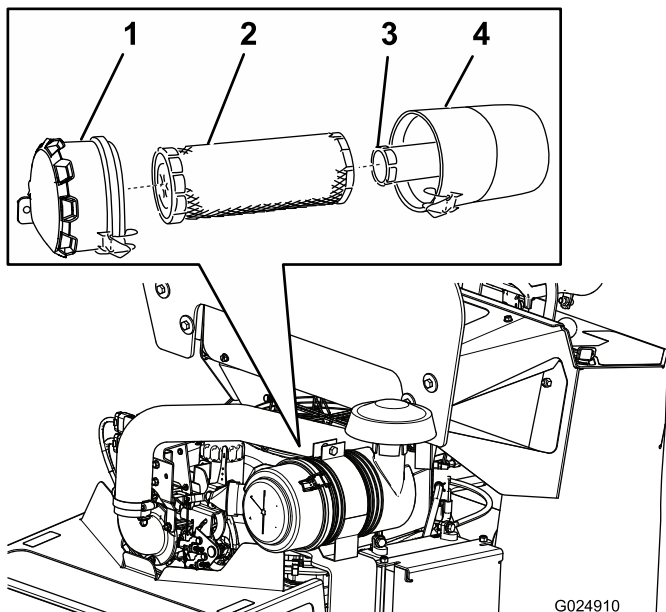

Figure 29
3. Release the latches on the air cleaner and pull the air-cleaner cover off the air-cleaner body (Figure 29).
5. Gently slide the primary filter out of the air-cleaner body (Figure 29).
2. If the inner filter is being replaced, carefully slide it into the filter body (Figure 29).
3. Carefully slide the primary filter over the inner filter (Figure 29).
4. Slide the cover onto the air-cleaner body and secure it with the latches (Figure 29).